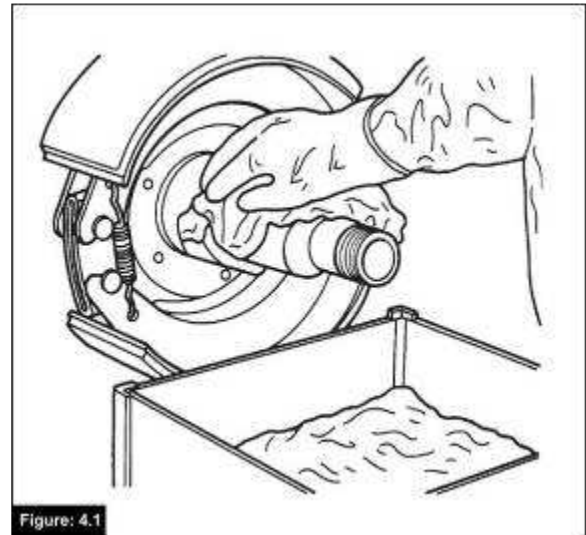

Figure: 4.1
1. Use a solvent cleaner to clean machined parts and surfaces, such as axle spindles and camshaft journals. Do not use a hot solution tank with water, steam or alkaline solutions. This will cause corrosion. Figure 4.1.